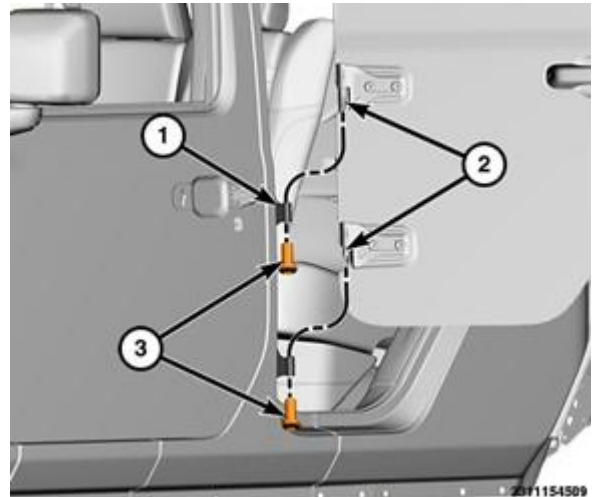

Figure 16 – Hinge Pin Nuts
- 23. Remove the nuts (3) and lift the door up off hinges (1) and remove (Figure 16).